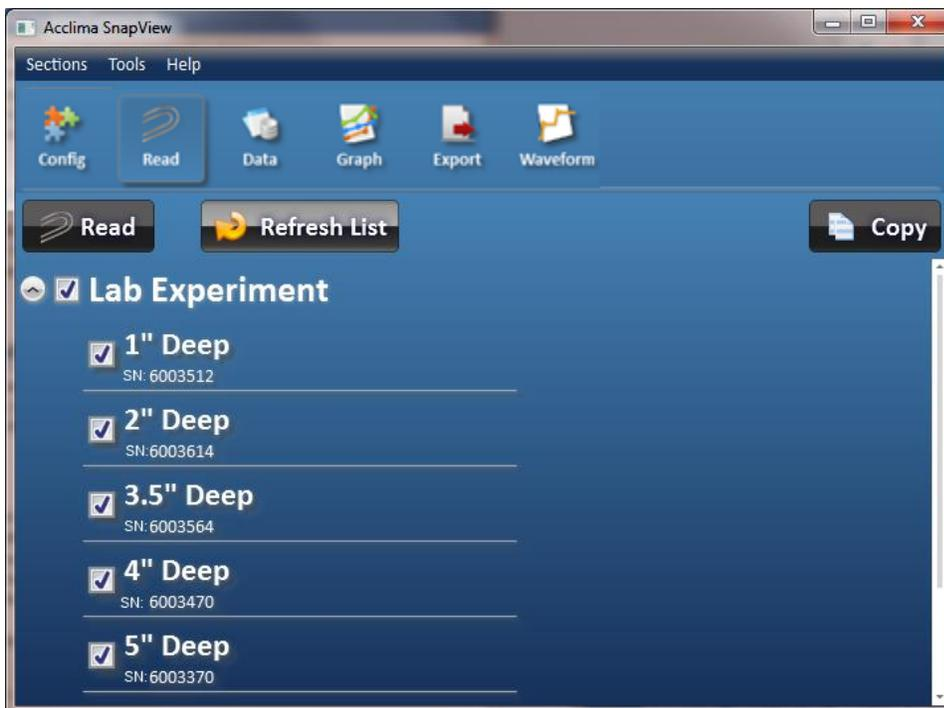

Figure 13 - Initial Read Sensor Screen
- Click the 'Read' button at the top of the screen. A list of all connected DataSnaps and their configured sensors is displayed as seen in figure 13. By default, each DataSnap and each sensor is selected. This is denoted by a check mark next to the name. Each time the 'Read' button is clicked, all selected (ie: checked) sensors will be read and the data displayed. To select or deselect all sensors on a DataSnap, click the checkmark next to the DataSnap's name. To expand/collapse the list of sensors, click the gray circle or click the DataSnap's name. Individual sensors can be selected/deselected by clicking the checkmark next to the sensor name.